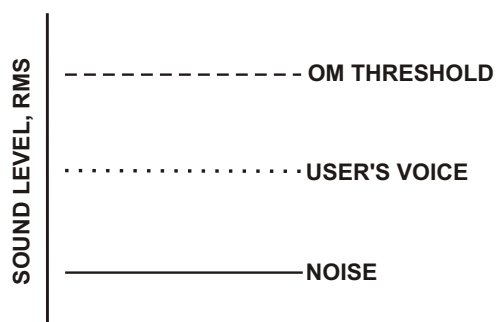

Figure 33
The microphone gain controls on the base station and belt-pack are set to mid-levels by the factory. In most cases this setting will work fine and only on loud speech will the overmodulation (OM) indicator light. However, in environments where the background noise is loud or the user has a strong/quiet voice, the gain control will need to be adjusted. In Figure 33 the gain is set correctly. The user's root-mean-square (RMS) sound level is well below the OM threshold and only on peaks does his or her voice flash the OM indicator light.
Figure 34 displays the same gain setting as in Figure 33 but brought into a high noise environment. The user's voice now lights the OM indicator all the time he or she speaks due to the higher noise plus the user speaking louder. The result on the system is distortion on louder speech. The microphone gain must be reduced. The same applies to a user with a powerful voice. If someone sets the system mic gain to their voice and user has a much stronger voice, then the gain will need to be reduced, even if the background noise is the same.